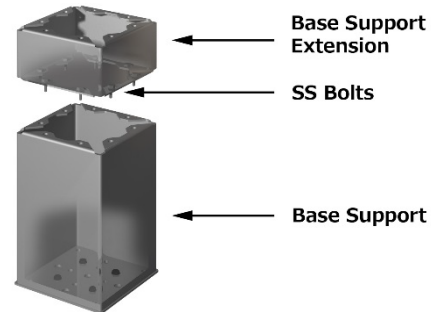

Figure 5
- Taller Base Support: Standard Base Support heights are 8", 10", 12" and 14". These heights will accommodate most conditions; however, we also offer custom-built heights if necessary. In the event that the Base Supports must be raised after they are installed, we offer 8" extensions that can be added in the field as illustrated in Figure 5.